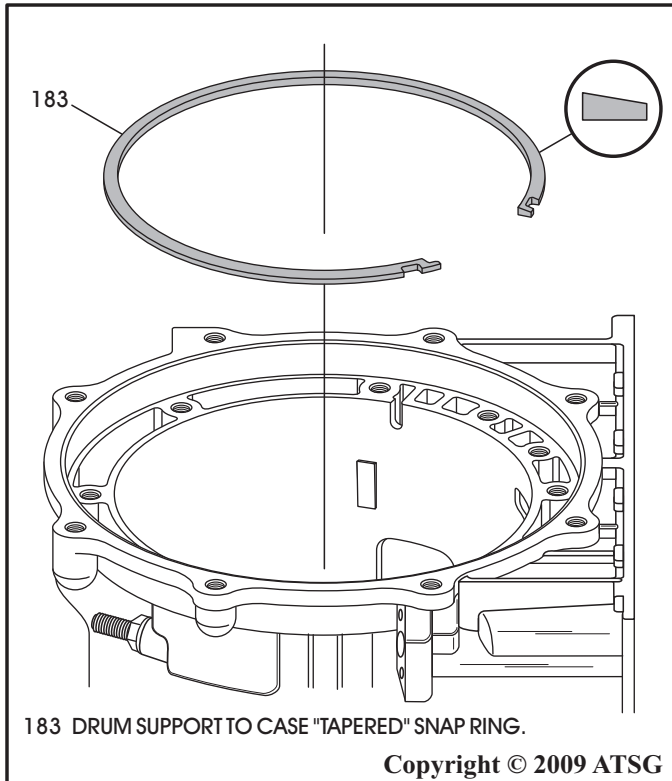

Figure 197
20. Install the tapered snap ring with the taper facing up, as shown in Figure 197, and snap ring opening toward the valve body surface.